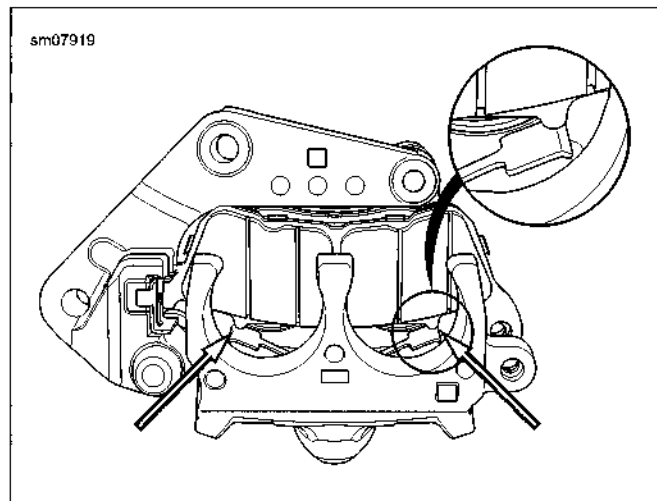

Figure 2-63. Pad Spring Feet
- c. See Figure 2-63. Align pad spring feet against pad spring.